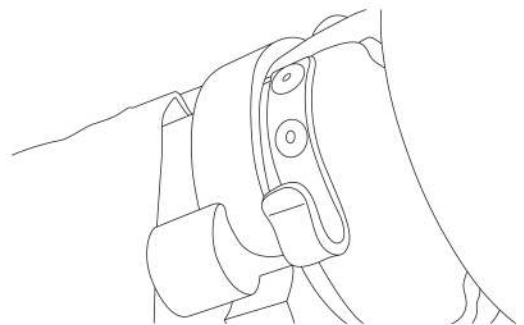
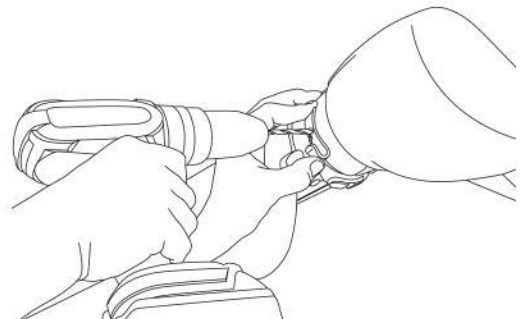

Figure 3. Carefree with Rubber Tractioner Position
Figure 4. Use $\frac{3}{16}$ " Drill
- 2.3. For Carefree awnings with a rubber tractioner, mount the bracket on the roller cap. (Refer to Figure 3) Mark the mounting holes on the cap. Using a $\frac{3}{16}$ " drill bit pre drill the holes and mount the bracket using the pop rivets provided. (Refer to Figure 4)